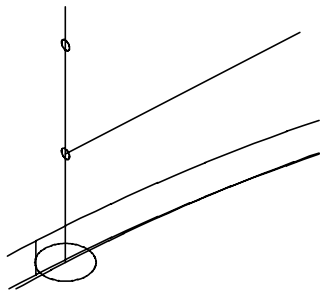

Figure 15
We need to begin by drawing some construction lines (illustrated in Figure 15 over the page):
- Issue the Circle command, specifying the centre as 0,0 and the radius as 20 — a small circle should appear on the columns axis 450 above the floor and “facing” along the direction of the edge of the platform (see Figure 15).
That completes all the construction lines that we need — zoom in to a view that looks like that shown in Figure 15.